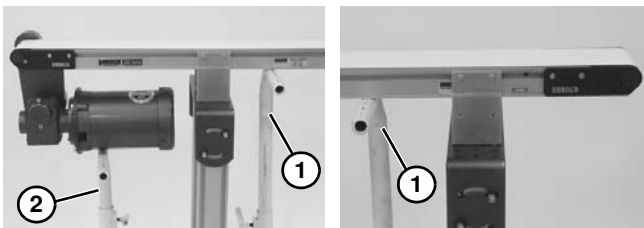

Figure 46
1. Ensure temporary support stands (**Figure 46, item 1**) are placed at both ends of the conveyor. Place an additional support stand under the drive motor (**Figure 46, item 2**), if equipped. See WARNING.